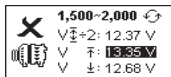

Fig. 48
11. If either minimum or maximum charging volts are not within the voltage range limits, the result will highlight as shown on the examples below (Fig.48&49) and it will prompt the user to check the alternator system for the fault.